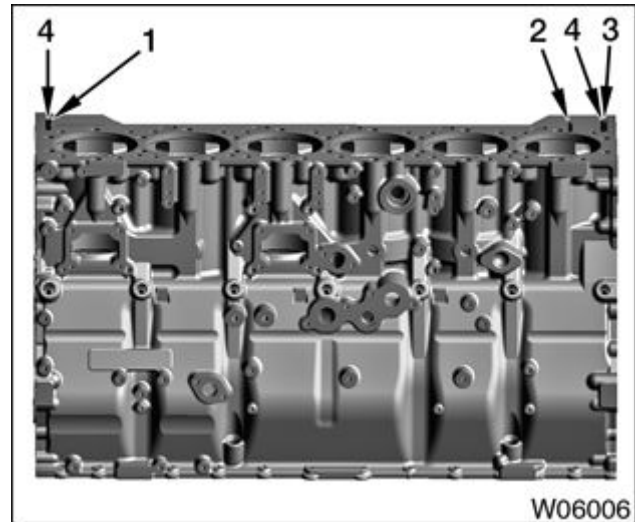

Figure 804 Top crankcase
6. Apply Loctite® 609 Retaining Compound (page 527) to the two top crankcase dowel pin locations as indicated in (Figure 804).